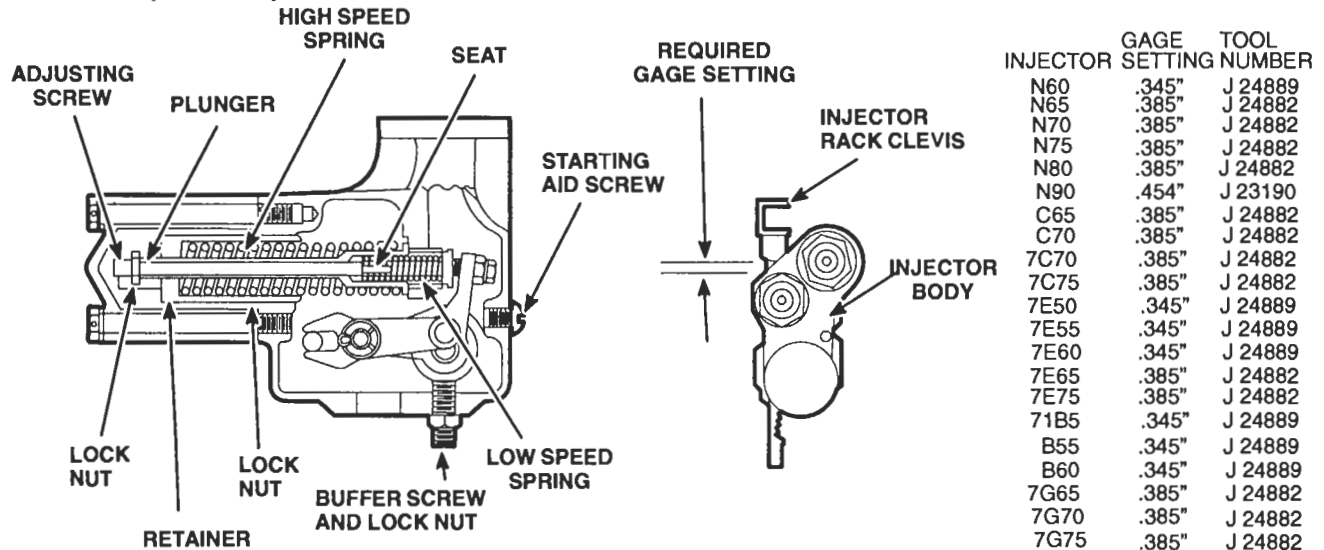

Figure 7. Adjusting Starting Aid Screwdriver Current Turbocharged Engines)
- Adjust the starting aid screw to obtain the required setting between the shoulder on the injector rack clevis and the injector body (Figure 7.) Select the proper gage and measure the setting at any convenient cylinder. When the starting aid screw is properly adjusted, the gage should have a small clearance of $1/64$ " in the space along the injector rack shaft between the rack clevis and the injector body.